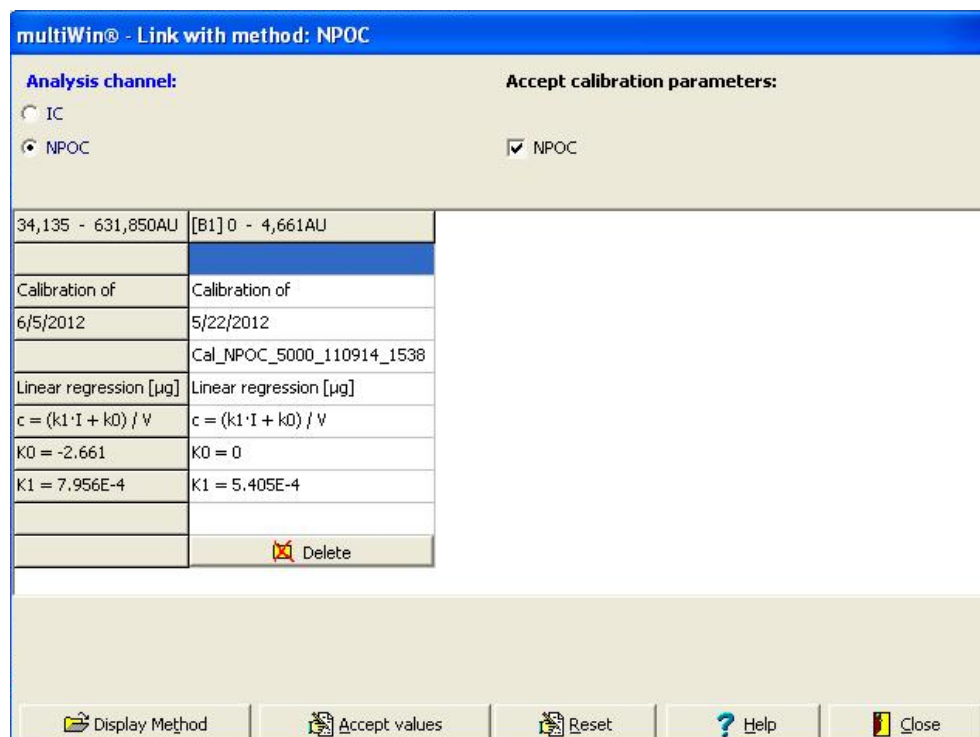

Fig. 33 Window Link to Method
5. In the window LINK WITH METHOD: that opens the existing current calibration coefficients (right-hand column) and the newly determined calibration coefficients (left-hand column) are displayed and can be compared (Fig. 33).